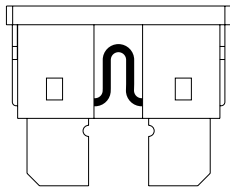

FIGURE 8. WORKING FUSE
The fuses help protect your Hurricane's lighting, control console assembly, and charging systems from receiving an overload of electrical current. The fuses used in the Hurricane are the same type automobiles use. See figure 8.
- Examine the 5-amp charger fuse. If the fuse is blown, the batteries will not charge. See figures 8 and 9.